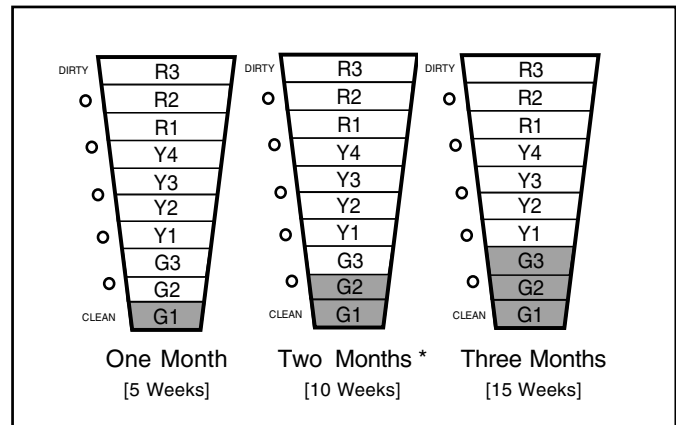

Figure 24 Green LED Pre-Filter Settings
- The three GREEN LED's are used to indicate PRE-FILTER cleaning interval. This is measured in actual run time of the indoor fan. The default setting is 2 months [10 weeks]. See Figure 24.
PRE-FILTER SETTING (Figure 24)